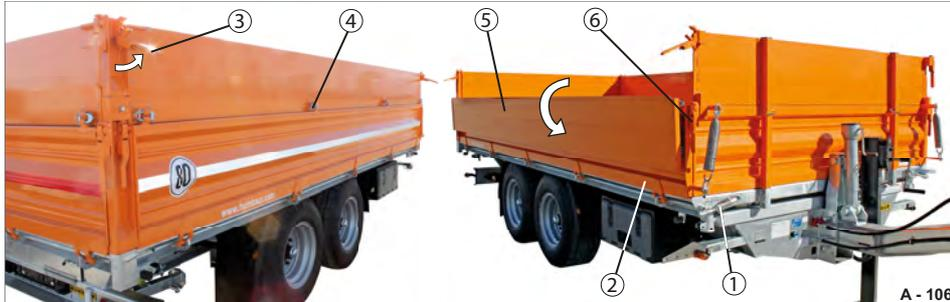

Fig. 112 Platform gate attachment folded to the side
The locks of the base platform gate (Fig. 112/2) and the central locking system (Fig. 112/1) must be closed!
The hinges (Fig. 112/4) must be secured!
- ▶ Unfasten the locks of the platform gate attachment (Fig. 112/3).
- ▶ Hold the platform gate attachment (Fig. 112/5) firmly and fold it down in a slow and controlled manner. The platform gate attachment hangs on the hinges.
- ▶ Fold up the platform gate attachment (Fig. 112/5).
- ▶ Fasten the locks of the platform gate attachment (Fig. 112/3).